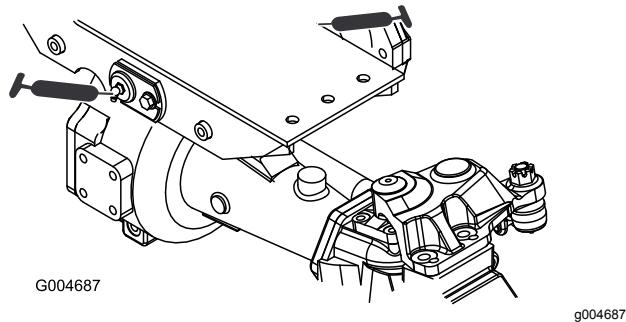

Figure 41
- 2 front and rear-axle-pivot bushings (Figure 41)